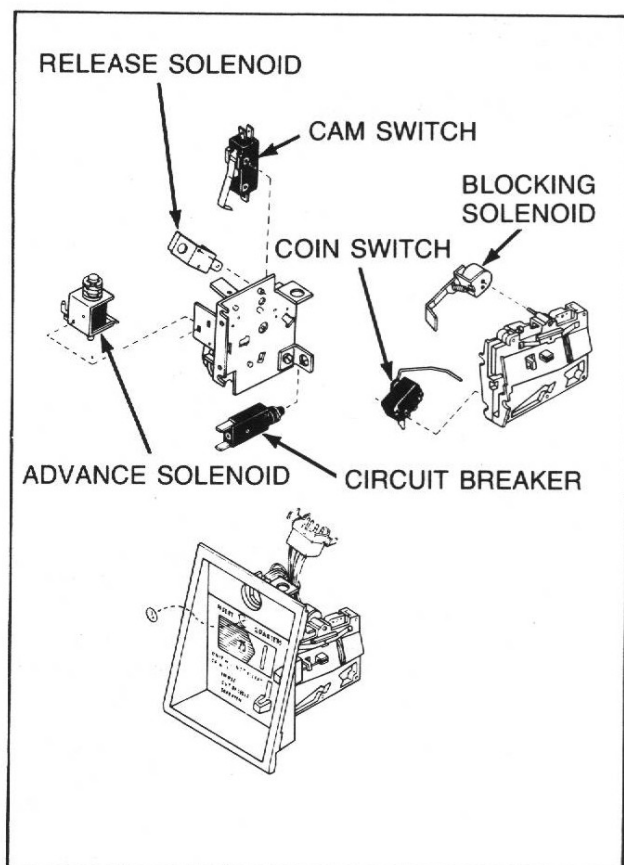

Figure 2
**NOTE:** Refer to *Figure 2* for accumulator coin drop assembly sequence.
- Install coin switch, *Figure 2*, so switch "clicks" before coin has completely dropped free of actuator arm. When actuator arm returns to natural position, there should be some free travel between the "click" and reseating against bottom of coin chute.